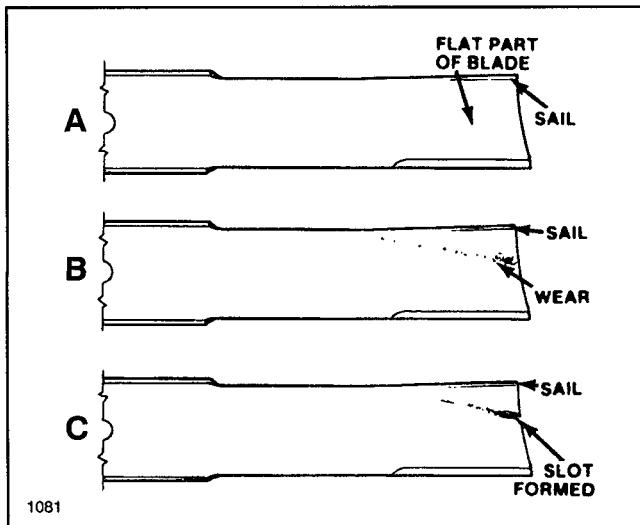

Figure 24
1. Examine cutting ends of the blade carefully, especially where the flat and curved parts of the blade meet (Fig. 24-A). Sand and abrasive material can wear away the metal that connects the flat and curved parts of the blade. Check the blade(s) before using the mower. If wear is noticed (Fig. 24-B), replace the blade(s).